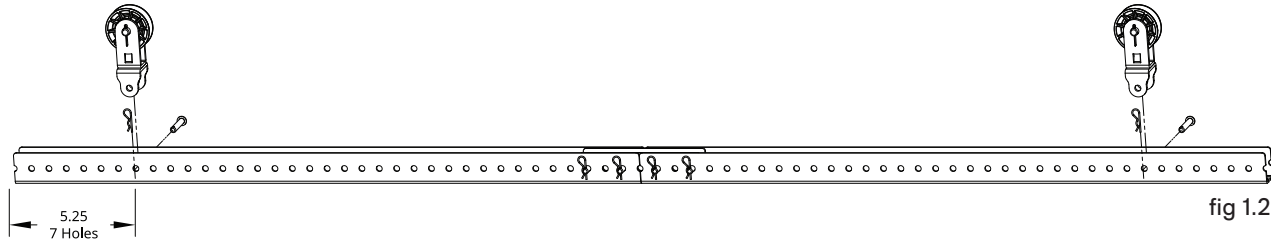

fig 1.2
6. From either end of the frame (made up of the joined modular frame pieces from the previous step), count seven holes in from the end and place a pulley on the frame and secure it with a cotter and clevis pin. (fig 1.2)